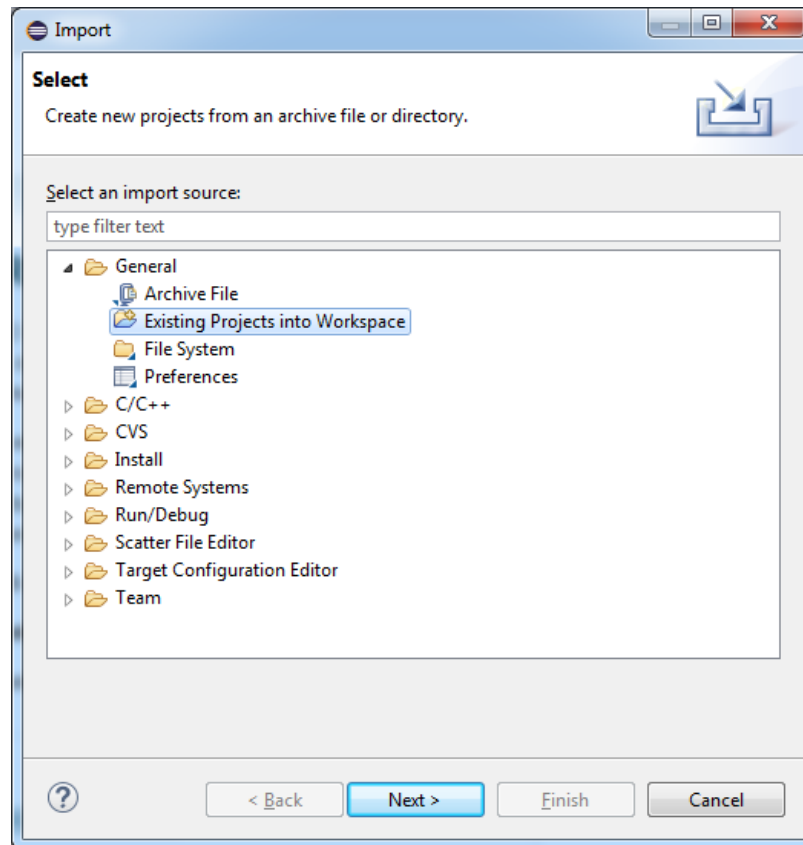

Figure 2 - Import Existing Projects
- a. Go to File → Import → General → “Existing Projects into Workspace” and click the “Next” button as shown in Figure 2.